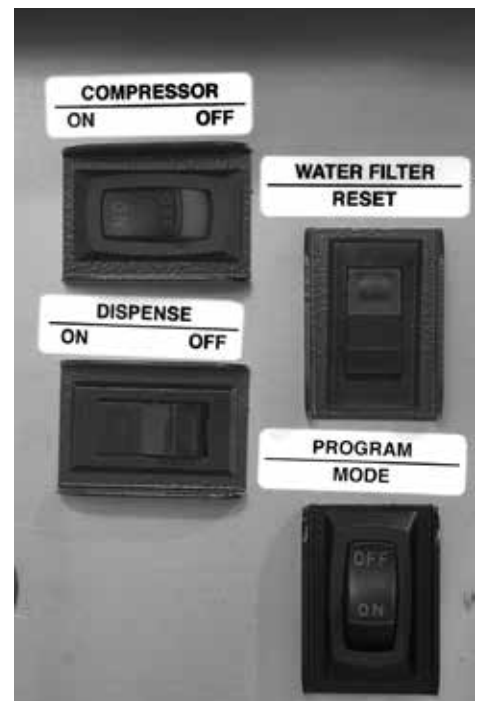

Figure 5
3. Confirm that the compressor switch and the dispense switch are in the **OFF** position (see Figure 5).